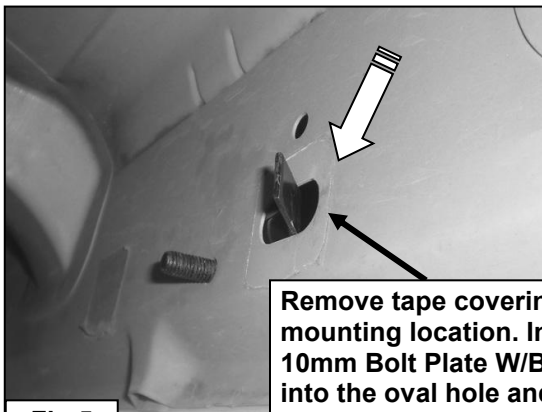

Fig 5
9. Move to the passenger side center location, Locate the holes in the side panel (remove sealing tape as necessary) for the Passenger Center Mounting Bracket, (typically one slot and two round holes). Insert one of the 10mm Bolt Plates w/ bend into the slotted hole and exit through the round hole, **(Figure 5)**. Thread (1) 10mm Plastic Retainer onto the threaded end of the Bolt Plate to prevent it from falling back into the body panel, **(Figure 6)**. **NOTE:** Some vehicles may have several holes in the side panel. To determine the correct mounting location, position the Passenger Center Mounting Bracket up and attach to the threaded insert**(Figure 7)**, Snug but do not tighten hardware at this time.